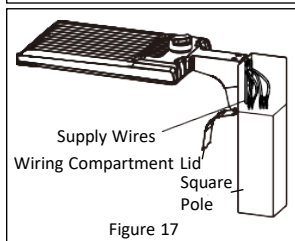

Figure 17
3. Push excess wire into the pole and close the wiring compartment lid. **See Figure 17.**